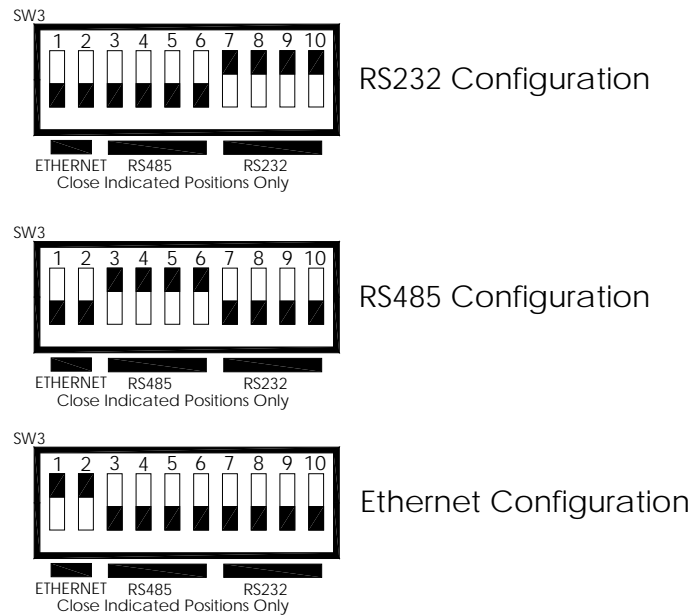

Figure 8-1: Com Configuration Jumper Settings (SW2)
4. Turn ON the switches specified for the desired COM configuration (See Figure 8-1.) All other switches on SW3 should be OFF.